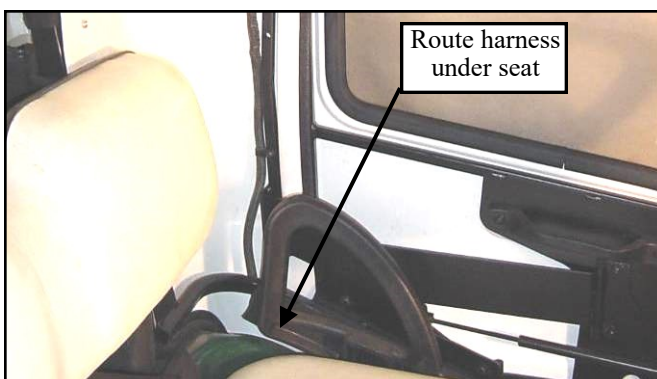
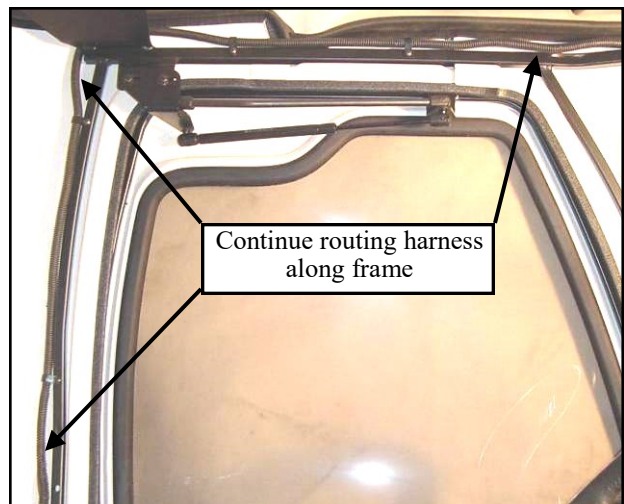

Figure 2.10.1 (view from passenger's side)
Figure 2.10 (view from passenger's side)
2.10 Per fig. 2.10, continue routing harness along upper frame tube, over the rear frame mount, and down the rear frame tube on the cab. Use p-clamps with #10 self drilling/tapping screws to attach to frame tube. Per fig. 2.10.1, continue routing harness down the rear frame tube of the cab and under the seat. Caution: route harness through one of the recessed areas between the cart's seat and body to prevent pinching and damaging the wires.